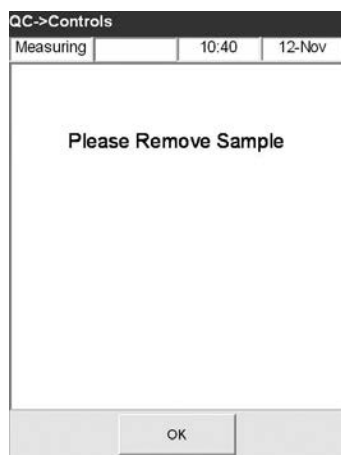

Fig. 4-28 Remove Sample
9. Once the sample is drawn into the analyzer, you will be prompted to remove the sample and press (Fig. 4-28).